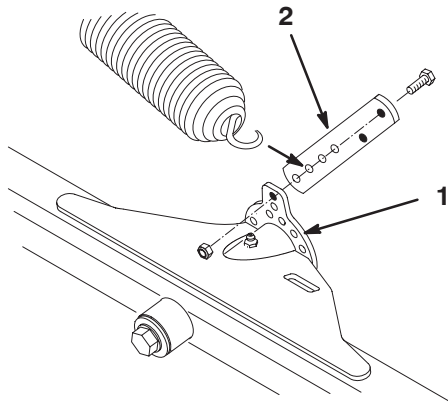

Figure 13
1. Mount a spring anchor to the rear inboard side of each front cutting unit lift tab with 2 capscrews (1/4 x 3/4 in.) and locknuts, as shown in Figure 13.
2. On the front cutting units, hook the spring into the second hole from the bottom (#3 position) in the spring anchor (Fig. 13).